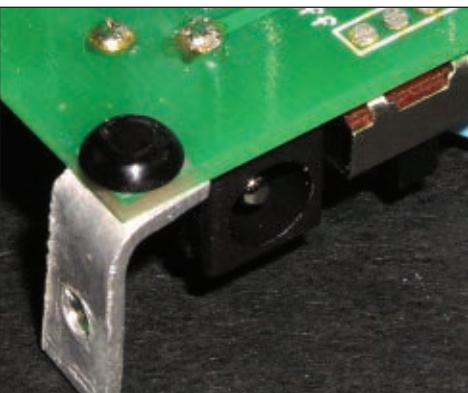

Figure 35. Close-up of the L bracket, held with a plastic push rivet.
15. Mount the four L brackets on the bottom side of the PCB with four small snap rivets. With the correct orientation, align the hole on the **small** arm of the L bracket to that of the mounting hole on the bottom side of the PCB. Place the small pop rivet from the top side into the mounting hole and press it until the rivet head touches the PCB. This will secure the L bracket into its place (see **Figure 35**).